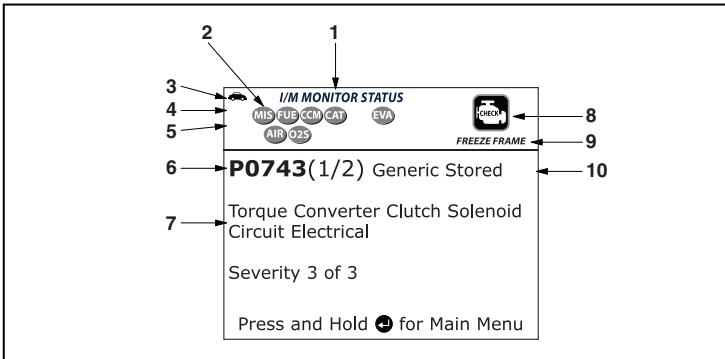

Figure 2. Display Functions
See Figure 2 for the locations of items 1 through 10, below.